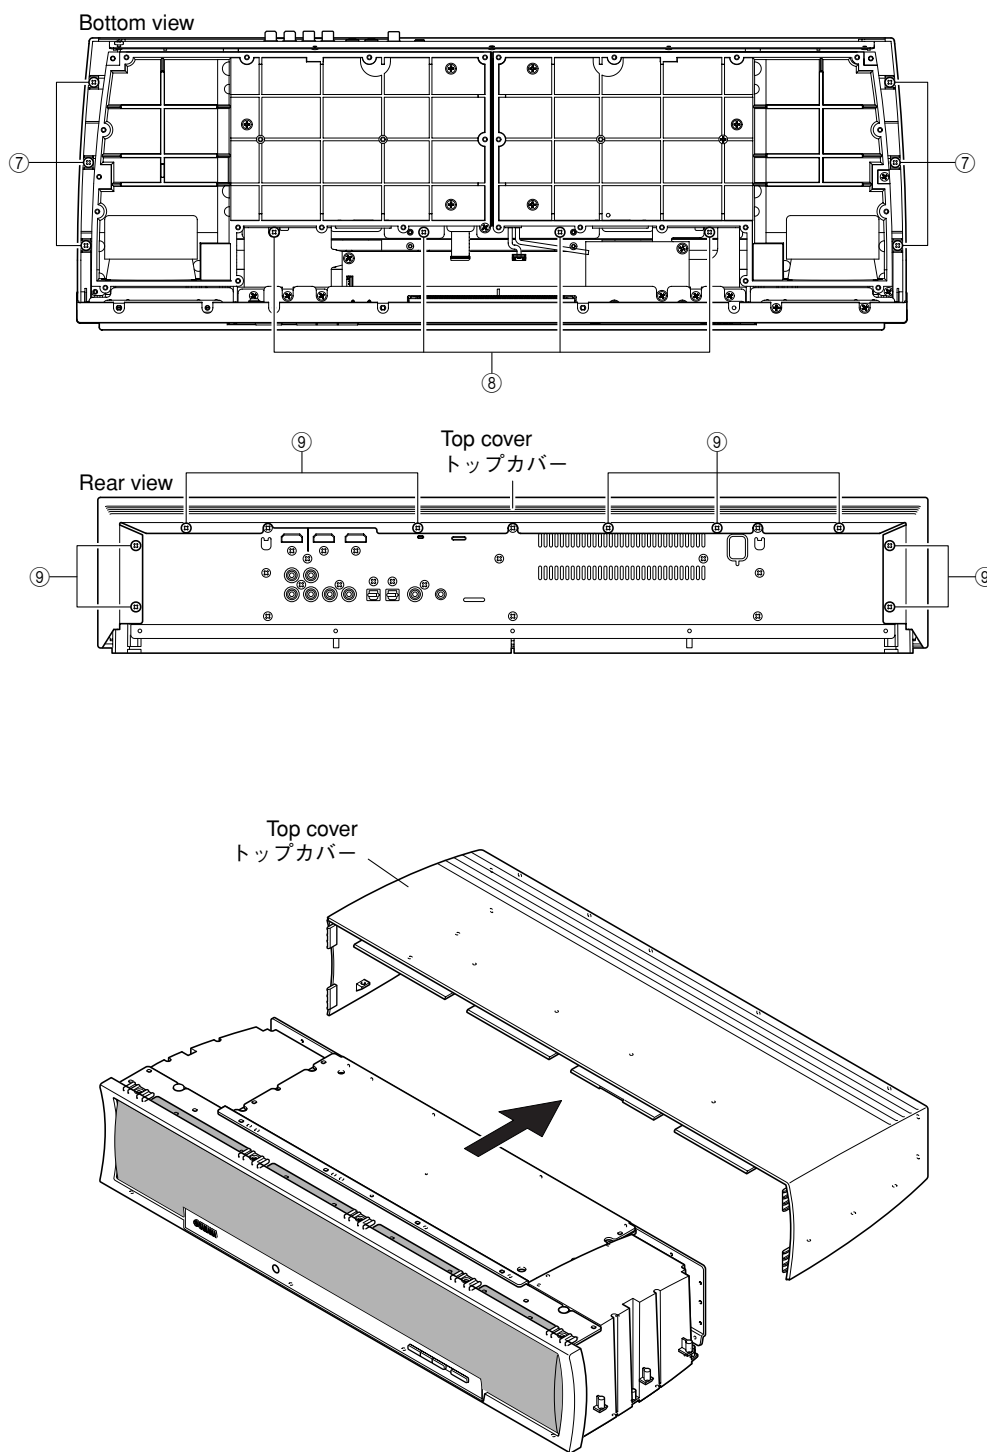

Fig. 2
- a. Remove 6 screws (⑦), 4 screws (⑧) and 9 screws (⑨). (Fig. 2)
- a. ⑦のネジ6本、⑧のネジ4本、⑨のネジ9本を外します。(Fig. 2)